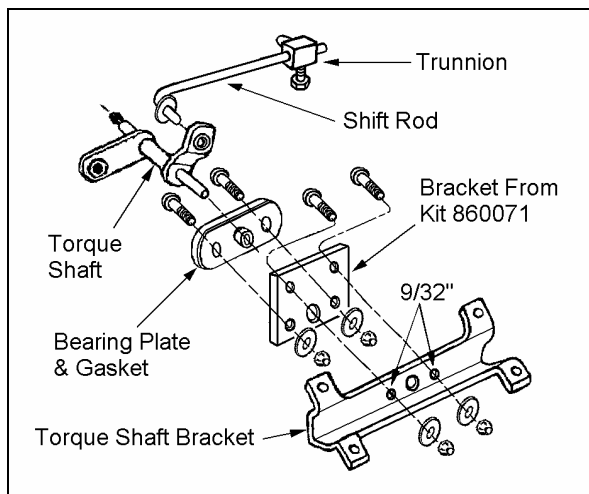

Figure 14
4. ☐ Attach the shift relocating bracket (from kit 860071) to the torque shaft bracket as shown in figure 14. Use the hardware from kit 860071.
5. ☐ Attach the bearing plate, with gasket, to the shift relocating bracket. See figure 14.